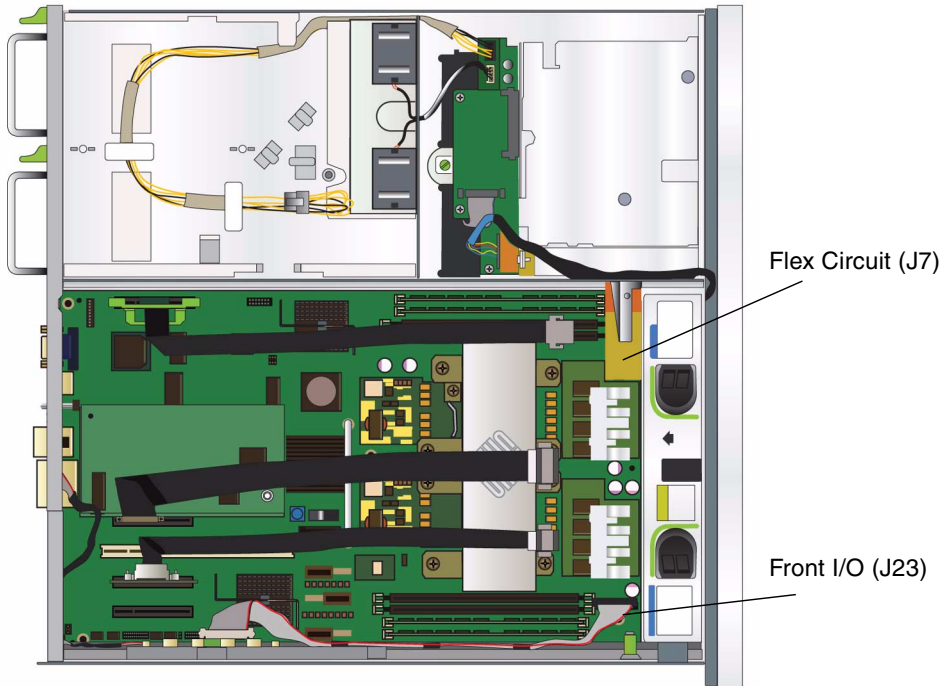

FIGURE 3-59 Disconnecting the Cables From the Motherboard Assembly
3. **Disconnect the cables from the following connectors on the motherboard assembly (FIGURE 3-59):**